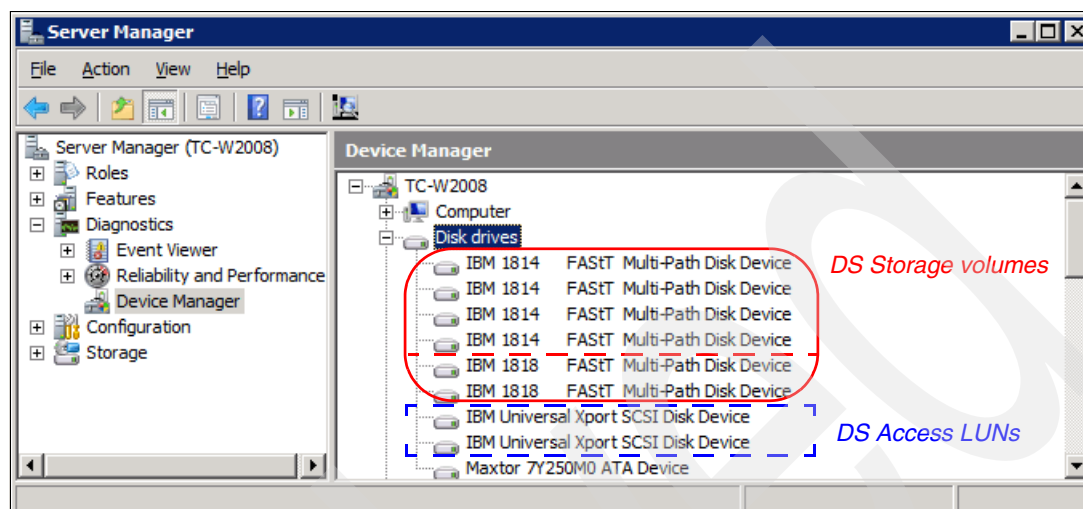

Figure 4-10 Displaying Logical volumes and Access LUNs
1. Go to the Windows device manager, and highlight the **Disks** folder. After everything is configured, connected, and mapped correctly, select from the Server Manager window **Action** → **Scan for hardware changes**. Observe the results shown in Figure 4-10.
2. Each logical drive is presented as an IBM XXX Multipath Disk Device under the Disk drives folder, where XXX is the product ID of the DS Storage subsystem. Notice that in Figure 4-10, there are disk drives of various types, because in this example, we have mapped to this host, the logical volumes from two DS Storage Systems. The IBM 1814 is a DS5020, and the IBM 1818 is a DS5300.